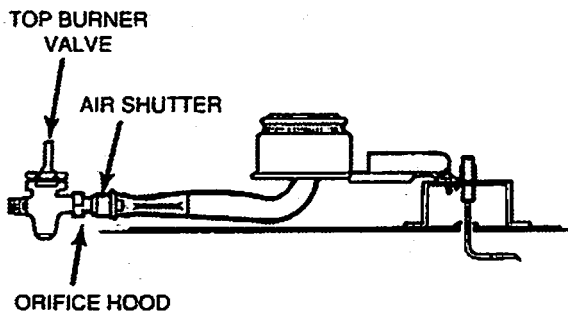

FIGURE 14
Remove the four top burners by removing the mounting screws, then lift the burners off the brackets. Screw the (4) four burner orifice hoods down snug, approximately 2 to 2 1/2 turns (fig. 14). **DO NOT OVERTIGHTEN.** Burner flames cannot be properly adjusted if this conversion is not made.